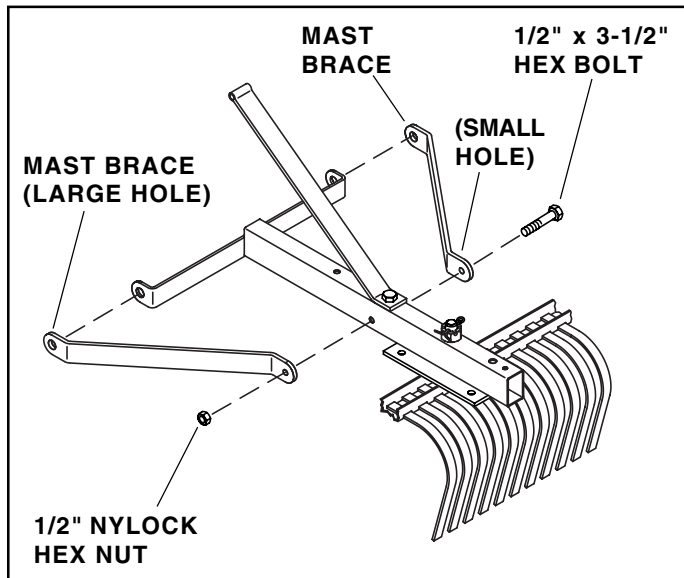

FIGURE 4
- Attach two mast braces to the sides of the mast assembly using a 1/2" x 3-1/2" hex bolt and 1/2" Nylock hex nut. Use the end of the brace with the smallest hole. **Do not tighten yet.** See figure 4.